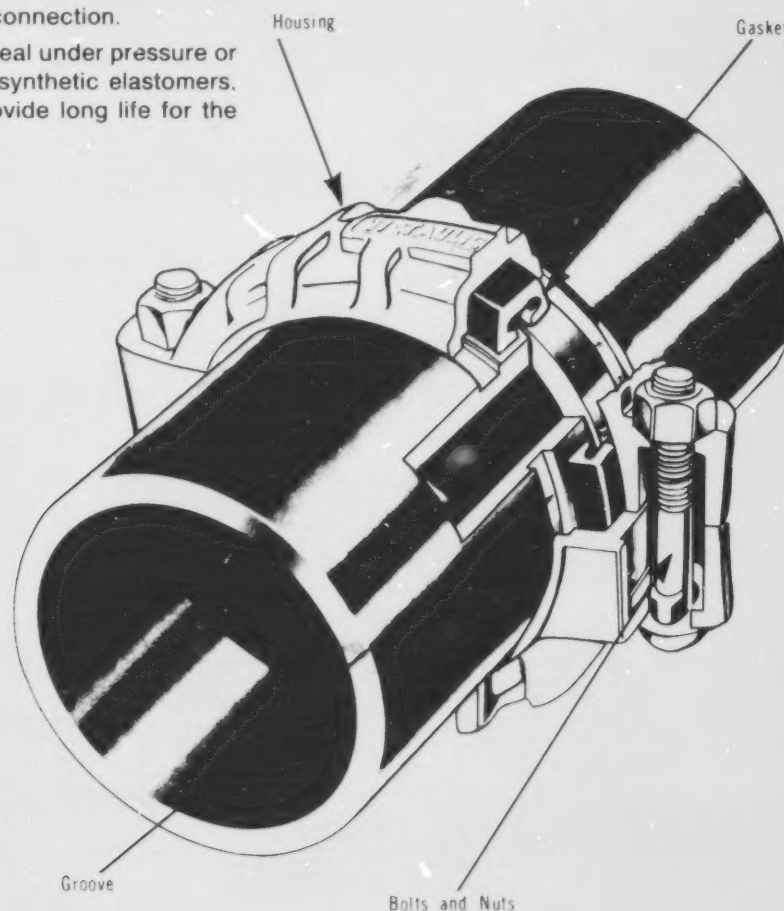

Figure 13-1. Cutaway View of Victaulic Grooved Piping Method
a) Victaulic grooved piping is a method of joining pipe for a wide variety of piping services. It offers the advantages of easy handling and assembly. The Victaulic method provides expansion, flexibility, and vibration reduction with a union at each joint. It can be applied to black or galvanized steel, stainless, aluminum, wrought iron, plastic — almost any pipe of NPS dimensions. (See Figure 13-1.)